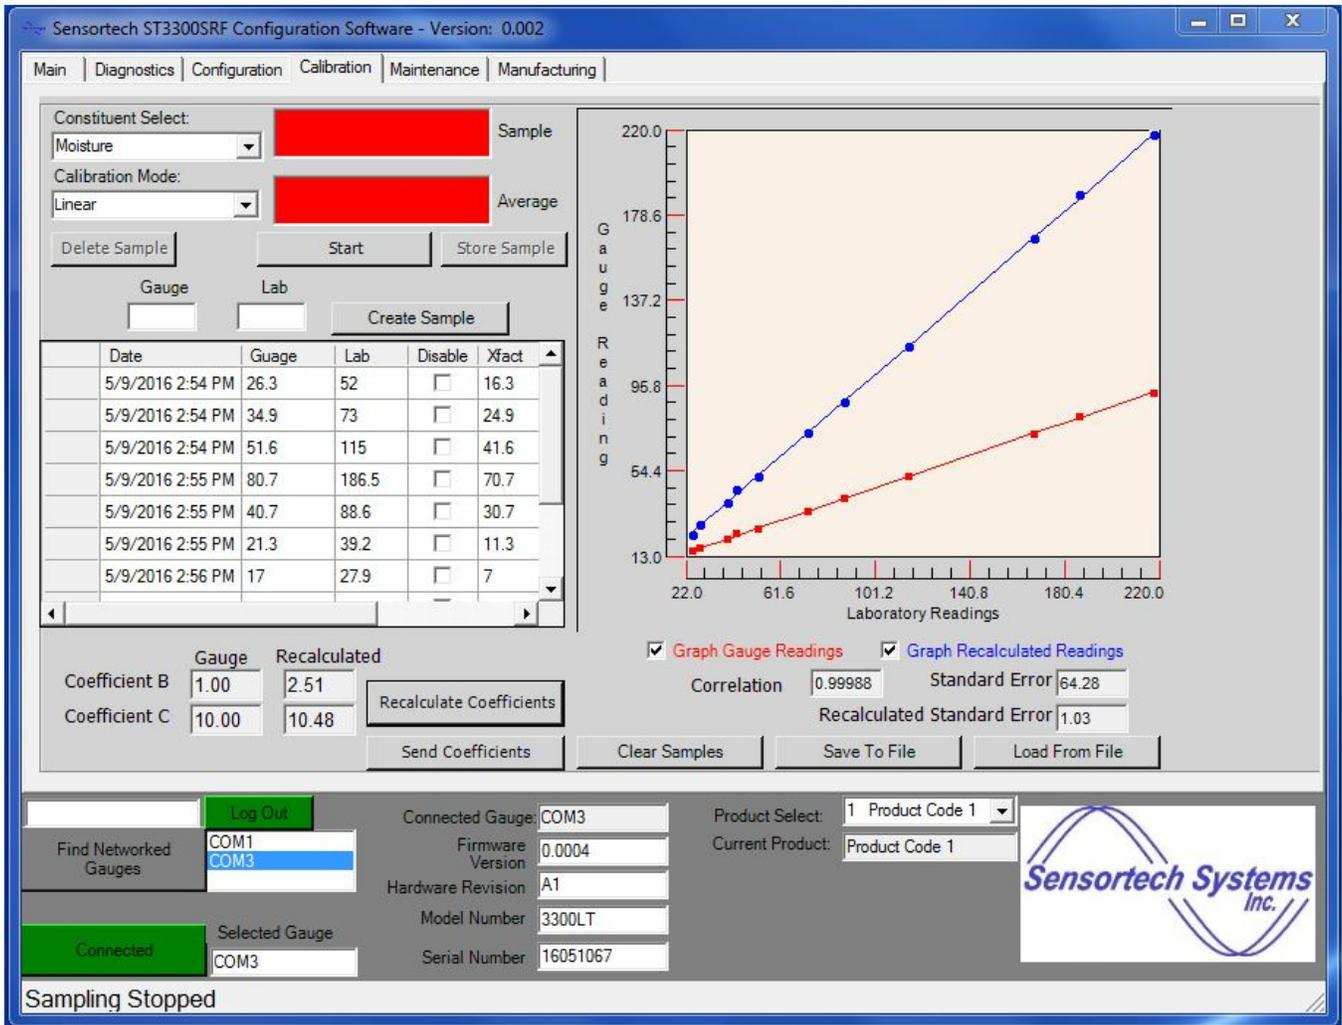

Figure 30: Example of the Calibration Screen after Product Calibration has been performed
8. The stored samples will be displayed with time and date information in the table fields as shown in Figure 30.